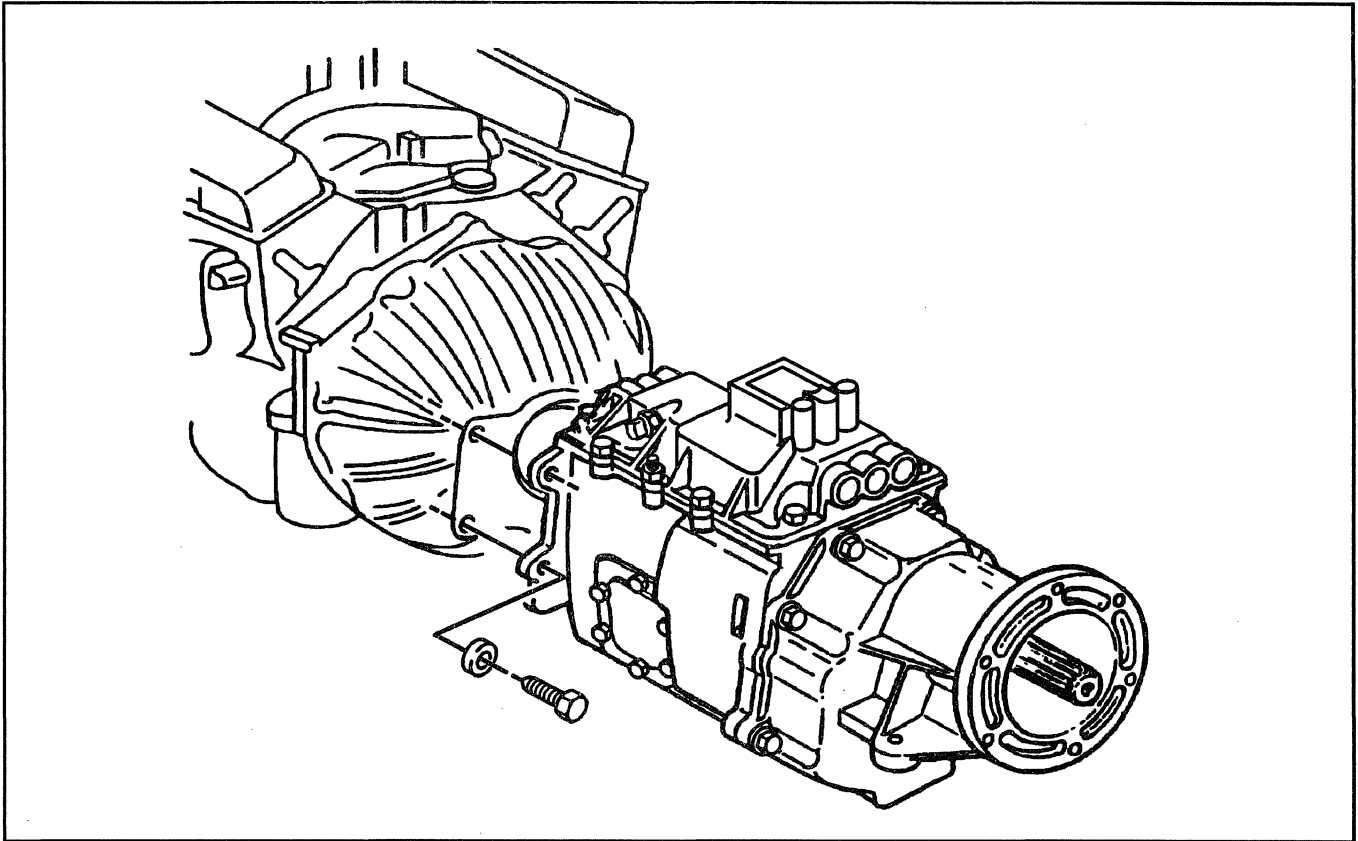

Figure 13—Transmission to Clutch Housing (New Venture Gear 4500) - 4WD Models
16. Transmission from clutch housing (Figures 13 and 14).
6. Bolts securing the transmission to the clutch housing (Figures 13 and 14).